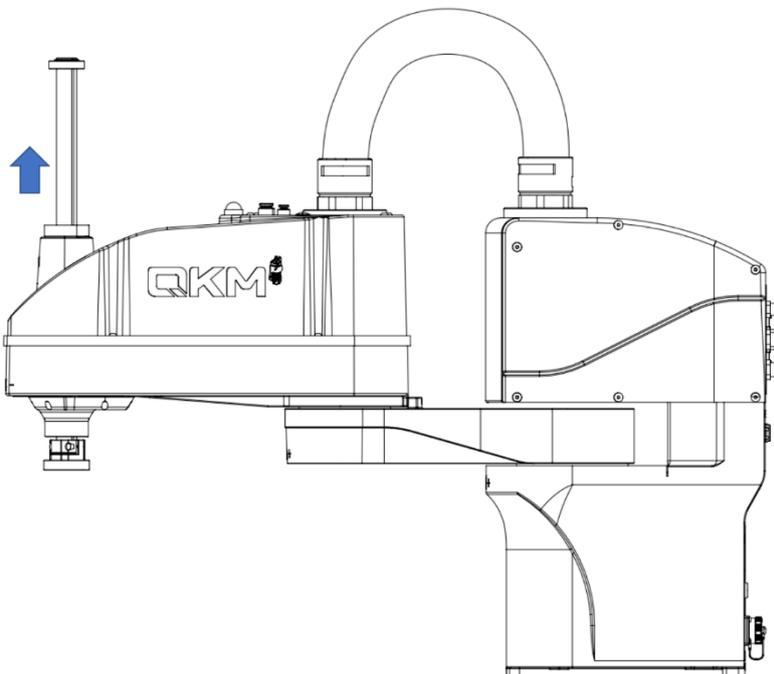

Figure 4-4 Push up spline screw shaft
Step 3 Press and hold the brake button and push the spline screw shaft up to the top, as shown in Figure 4-4.